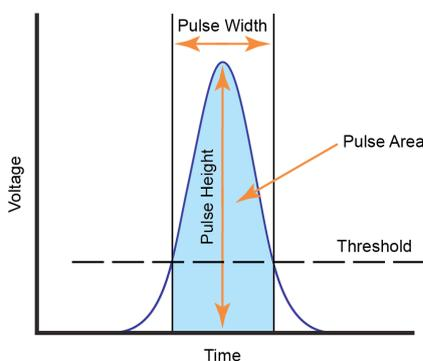

Figure 1-9 Pulse Measurements
When a cell or a particle passes through the optical detection point, a Gaussian-shaped electronic pulse will be generated from the optical detectors. The amplitude of the generated pulse is proportional to the intensity of the optical signal, which indicates the properties of the cell or particle (FSC and SSC) and the amount of the fluorochrome associated with it. Such electronic signals generated by the optical detector are further amplified, filtered and converted into digital signals by the high-speed, high-precision Analog-to-Digital Converter (ADC). The digital signals are processed and analyzed by algorithms programmed with high-performance field-programmable gate array (FPGA) to reveal the flow cytometry characteristics of the cell or particle including FSC, SSC, and fluorescence signals. All the signals with amplitudes higher than the set threshold would be processed by the NovoCyte™ electronic system. Parameters extracted from the pulse signals include Width (W), Height (H) and Area (A), which are illustrated in Figure 1-9.